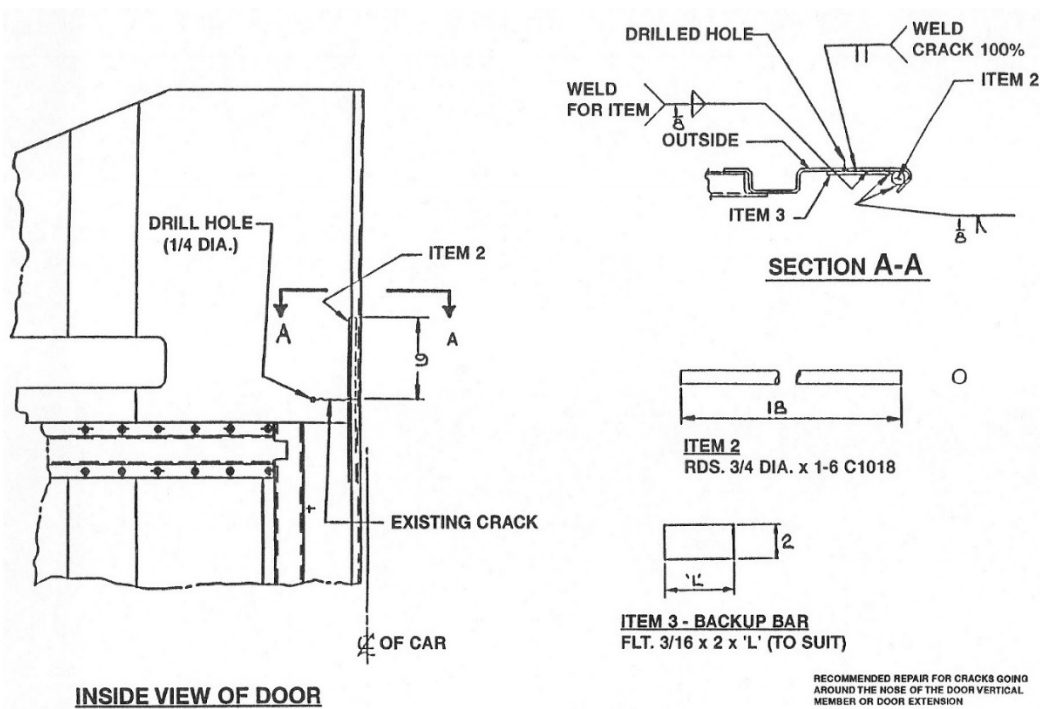

Figure 19
1. It is most important to drill a 1/4" hole at the end of the crack (See Figure 19, Inside View).
2. Clamp a 3/4" round bar, 18" long, (Item 2), to the inside of the nose piece as shown in Figure 19. Place the bar vertically so that the rod is centered 9" below the crack.
5. Place backup bars (Item 3) onto the inside of the door. The bars should extend 1" beyond the crack in every direction, if possible. Weld the backup bars as shown in Figure 19, Section A-A.